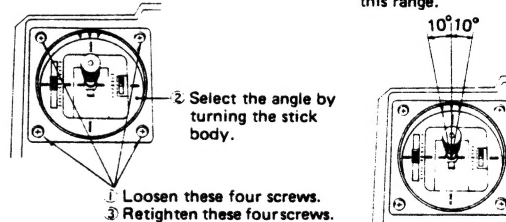

Fig. 5
- To adjust the operating direction of the stick lever, loosen the four screws and turn the stick and set it at the best position as shown in Fig. 5. After setting the stick, retighten the four screws.
- To use this set with an Nicd battery, purchase an FBPK-8 [Consisting of NT-8J (Tx Nicd), NR-4M (Rx Nicd) and charger, FBC-2A or FBC-8B (1)] and modify the set.